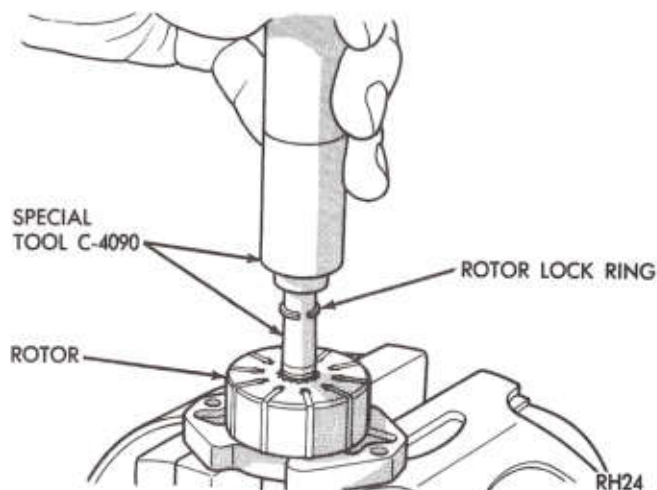

Fig. 12—Install Rotor Lock Ring
(6) Slide rotor over splines with the counterbore of rotor facing **down**. Install rotor lock ring making sure ring is seated in groove (Fig. 12).